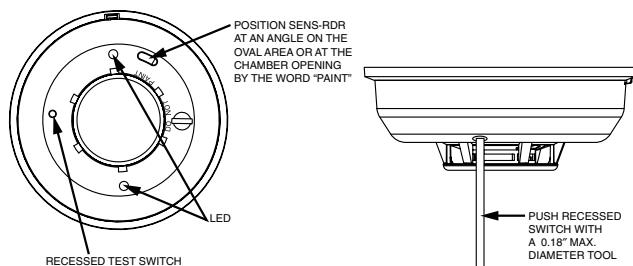

Figure 4. Recessed Test Switch Opening and SENS-RDR Position
To measure the detector's sensitivity, the i3 Series Model SENS-RDR Infrared Sensitivity Reader tool (see Figure 4) should be used. Refer to instruction manual D100-98-00 for proper use of the SENS-RDR.
1. A recessed test switch is located on the detector housing (see Figure 4).